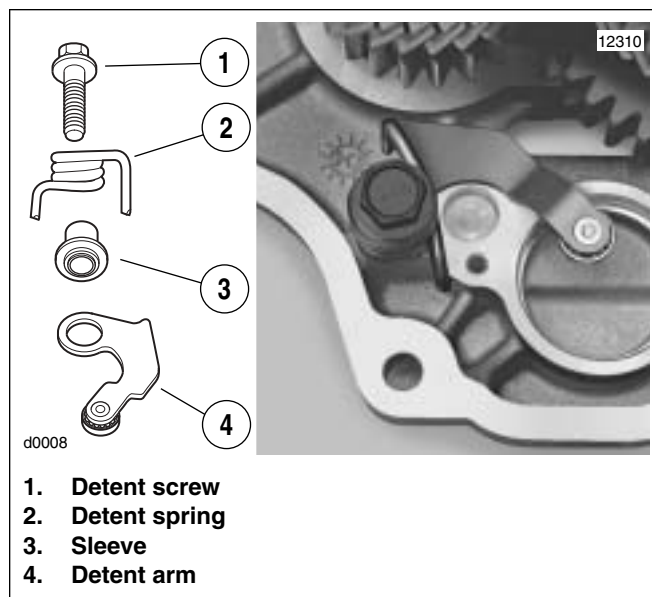

Figure 11. Detent Assembly
2. See Figure 11. Assemble **new** detent screw (1) (Part No. 35244-06 from recall parts kit), detent spring (2), sleeve (3) and **new** detent arm (4) (Part No. 33409-06 from recall parts kit). With transmission bearing housing mounted on end (shafts pointing upward), mount detent assembly in bearing housing as shown. Make certain to orient spring and detent arm as shown in the figure. Tighten screw to 120-150 **in-lbs** (13.6-17.0 Nm).